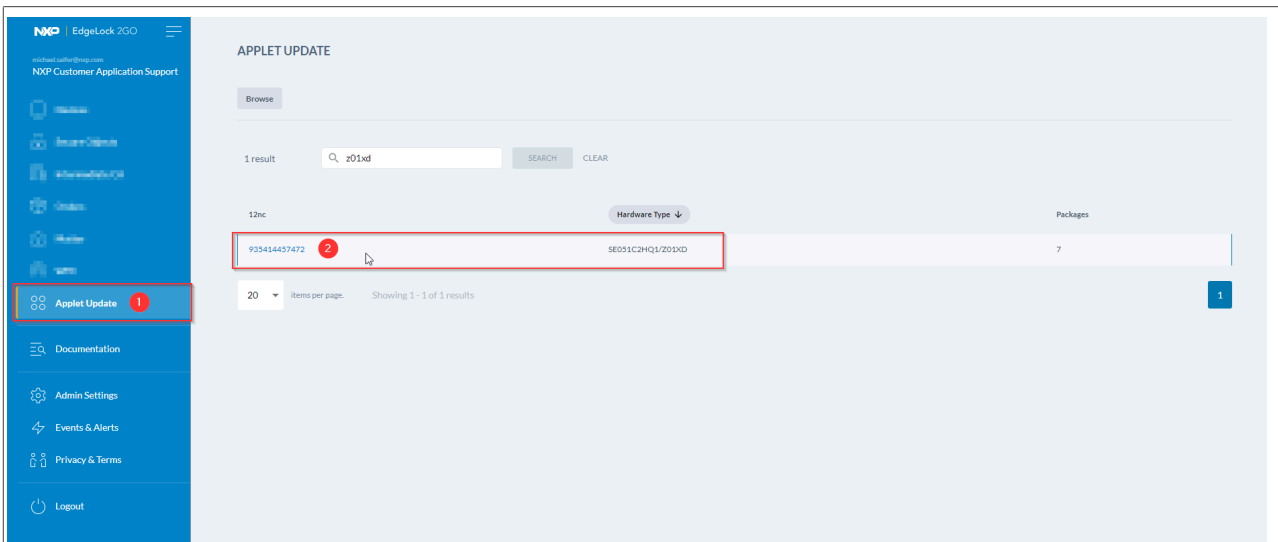

Figure 12. Open Applet Update page in EdgeLock 2GO
- (1) Open the *Applet Update* page in EdgeLock 2GO and then (2) click on the 12NC code of the product you are downloading the script(s) for as shown in Figure 12.